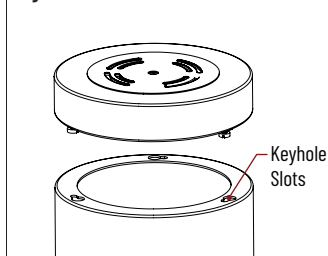

Figure 6
6. Twist the cylinder cap to lock the cylinder. Tighten screws inside cylinder. (Figure 6)